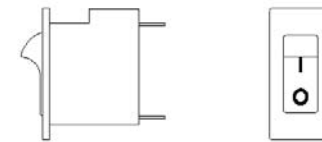

Fig. 5
It comes with a self - disconnecting switch supplying power to the motor when in the position "I", thus letting the paddle revolving. The motor is stopped simply by pressing the "0" button (Fig.5).
-Pressing the "I" button, power is supplied to the motor circuit (Fig.5);